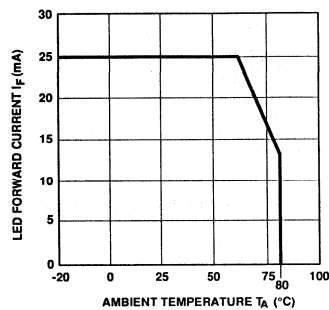

Figure 9. LED Forward Current vs. Ambient Temperature.
- Derate absolute maximum ratings with ambient temperatures as shown in Figures 9, 10 and 11.